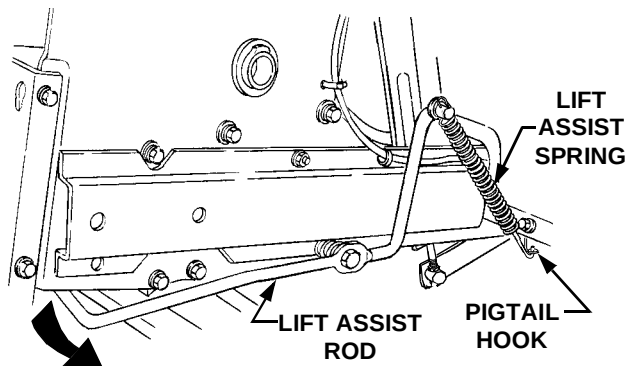

Figure 55
9. From beneath the right rear fender, push the lift assist rod down and outward to release from the frame. Disengage the hook of the lift assist spring from the pigtail hook (See Figure 55).